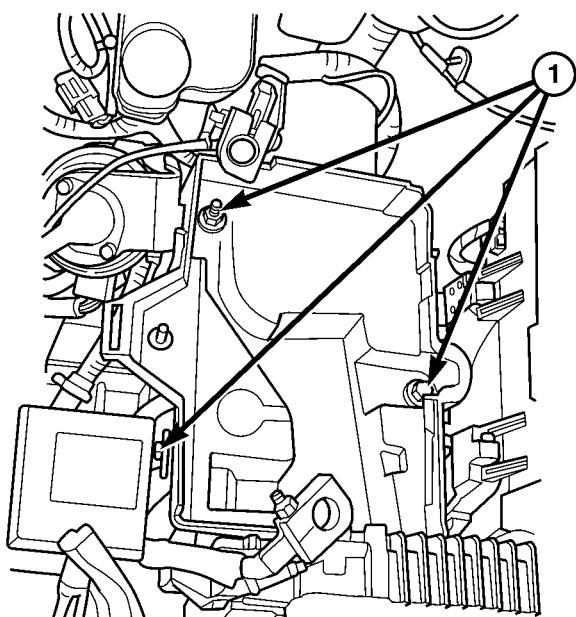

Fig. 18 BATTERY TRAY POSITION & ORIENTATION
- (1) Disconnect and isolate the negative battery cable.
- (2) Remove the battery from the vehicle. Refer to the procedure in this section.
- (3) Remove the battery tray retaining fasteners (Fig. 18).
- (1) Position the battery tray in the vehicle.
- (2) Connect the engine vacuum harness hose on the battery tray mounted vacuum reservoir.
- (3) Position drainage hose and install the battery tray retaining fasteners (Fig. 18).
- (4) Install the battery in the vehicle. Refer to the procedure in this section.
- (5) Connect the negative battery cable.